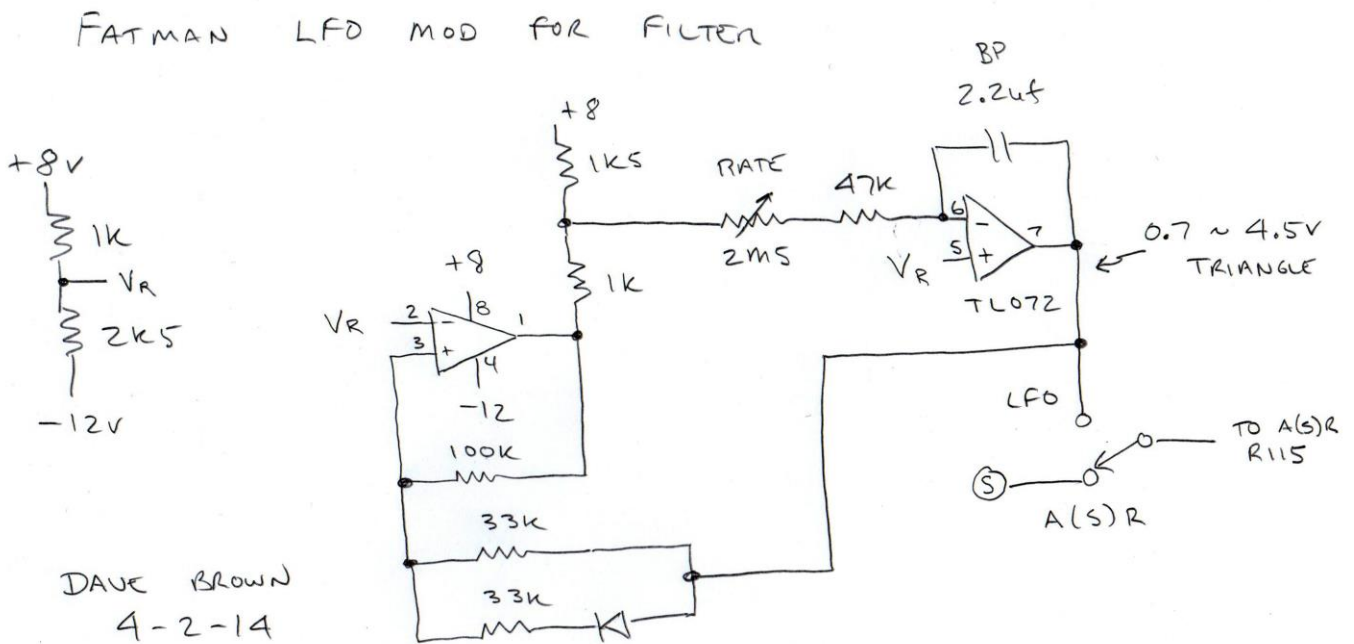

Figure 6
13. LFO Modulator: Add triangle LFO for modulating filter. Add SPDT switch to select either A(S)R or LFO output (figure 6). 0.7 to 4.5V output voltage range selected for modulation.